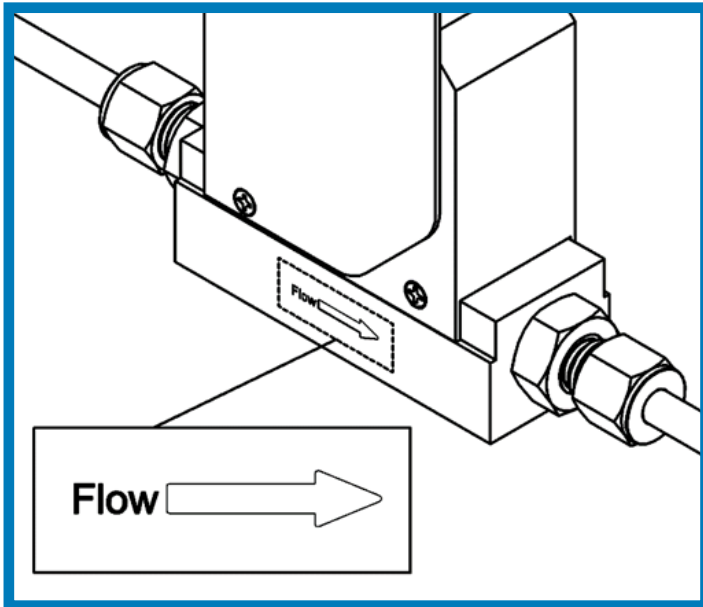

Figure B3.1
- The flow direction for this device is clearly marked on the flow body (see Figure B3.1). Do not reverse the flow direction or the device will not function as intended.